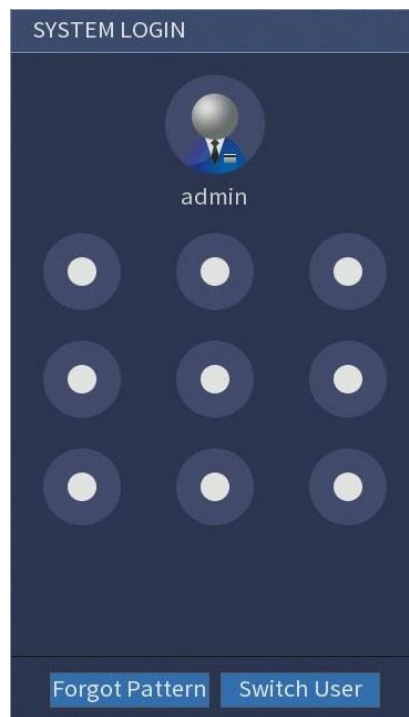

Figure 5-4
- If you have configured unlock pattern, the unlock pattern login interface is displayed. See Figure 5-4. Click **Forgot Pattern**, the password login interface is displayed. See Figure 5-5.